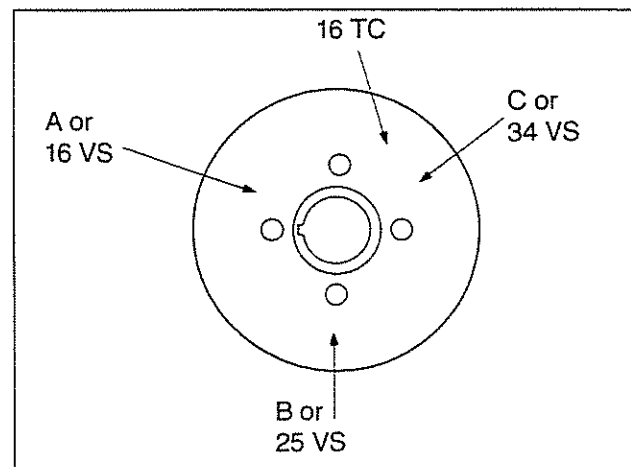

Fig. 2-42, (N114230). Accessory drive pulley marking — N-855
1. Bar the engine until "A" or 1-6 "VS" mark on the pulley, Fig. 2-42, is aligned with the pointer on the gear case cover. In this position, both valve rocker levers for cylinder No. 5 must be free (valves closed). The injector plunger for cylinder No. 3 must be at top of its travel; if not, bar the engine 360 degrees, realign the mark with the pointer.